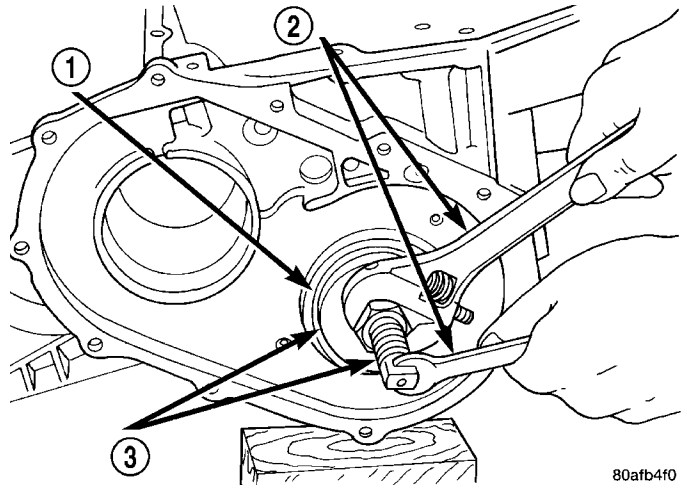

Fig. 85 Install Both Output Bearing Cups
(1) Install both output bearing cups using Tool 5050 (Fig. 85).